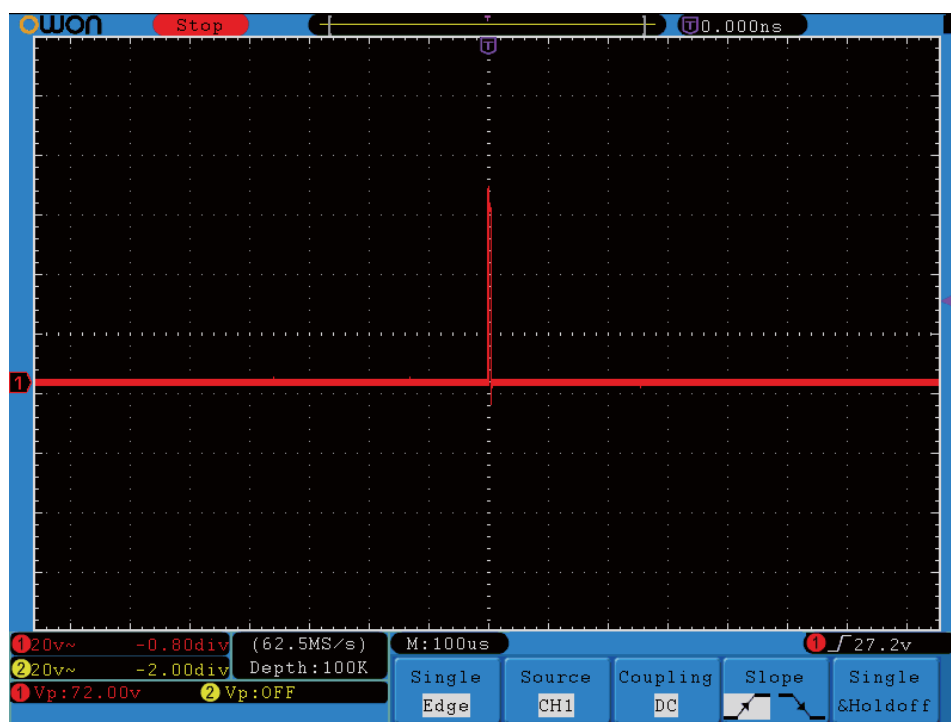

Fig.6-3 Capture the Single Signal
15. If the **Trigger State Indicator** at the top of the screen does not indicate **Ready**, push down the **RUN/STOP** button and start **Acquire**, waiting the emergence of the signal in conformity with the trigger conditions. If a signal reaches to the set trigger level, one sampling will be made and then displayed in the screen. With this function, any random occurrence can be captured easily. Taking the burst burr of larger amplitude for example, set the trigger level to the value just greater than the normal signal level, and then presses the **RUN/STOP** button and waits. When there is a burr occurring, the instrument will trigger automatically and record the waveform generated during the period around the trigger time. With the **HORIZONTAL POSITION** knob in the horizontal control area in the panel rotated, you can change the horizontal position of the trigger position to obtain the negative delay, making an easy observation of the waveform before the burr occurs (see **Fig.6-3**).